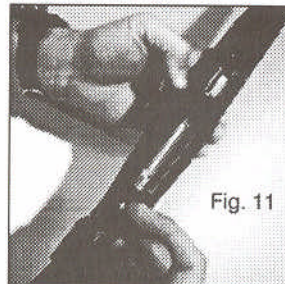

Fig. 11
- 4) Fig 11: Raise the bolt handle and move the bolt stop out or away from the receiver